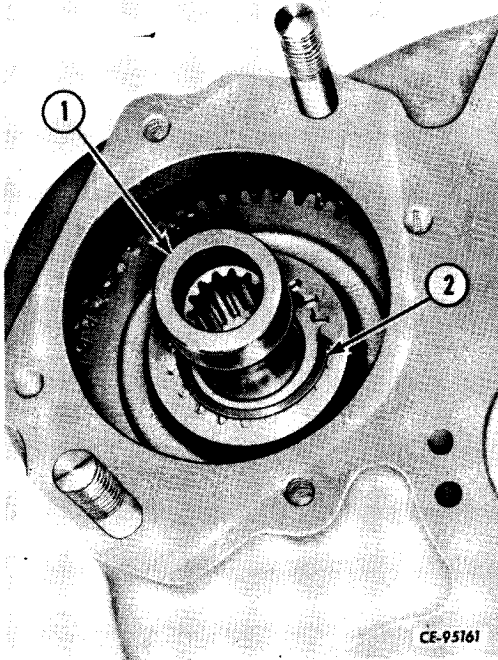

Figure 3-21
Remove the snap rings (2, Fig. 3-21) that hold the splined hubs (1) to the driven gears. Remove the splined hubs.